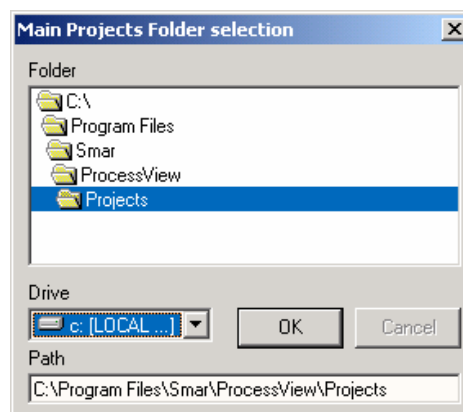

Figure 9.1. Main Projects Folder Selection
2. The first time you open ProjectWorX, you are asked to select a folder in which the ProjectWorX database will be stored, as shown in Figure 9.1. Browse for a projects folder, and then click OK.
Selecting **Set Working Directory** from the **Tools** menu opens the **Set Working Directory** dialog box, shown in **Figure 9.1**, which enables you to configure a custom directory in which all application configuration files will be stored and retrieved. Click **Browse** to select the directory.